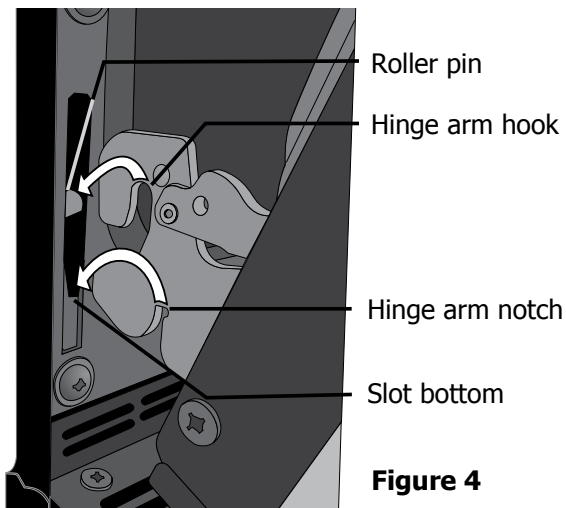

Figure 4
5. With the oven door in the broil stop position, lift the oven door hinge arms over the roller pins located on each side of the oven frame (See Figure 4).
2. Holding the oven door at the same angle as the removal position, seat the hook of the hinge arm over the roller pins located on each side of the oven door frame (See Figure 4). The hook of the hinge arms must be fully seated onto the roller pins.